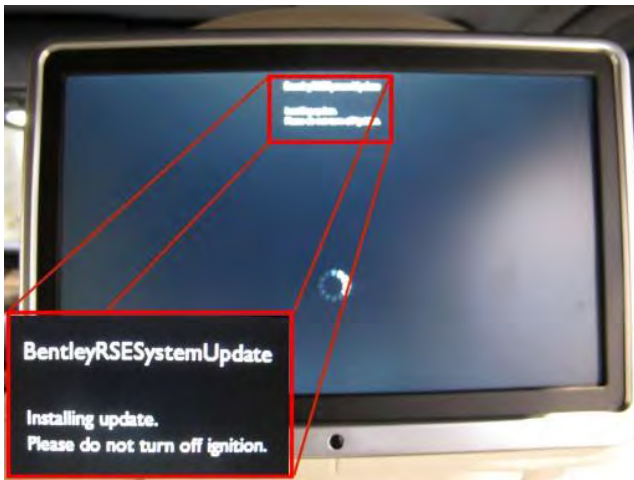

Figure 8
14. At this stage the RSE screens are displaying *BentleyRSESystemUpdate* as shown in Figure 8, the update will start as indicated in the RSE screens